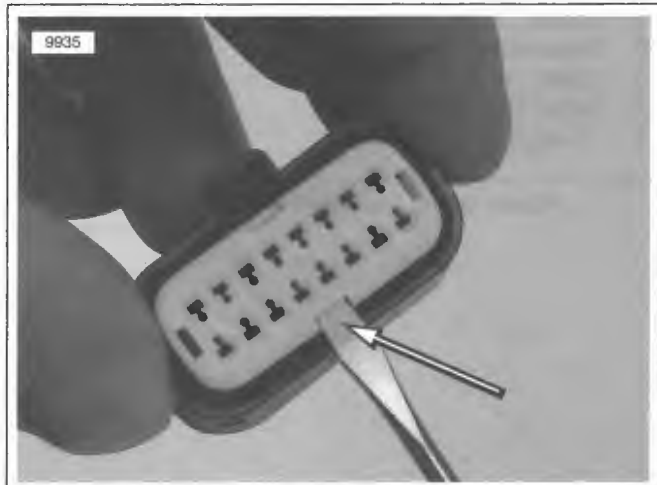

Figure B-39. Secondary Lock Pry Slot (socket housing)
- a. **Socket Housing:** See Figure B-39. Use a small screwdriver in the pry slot.